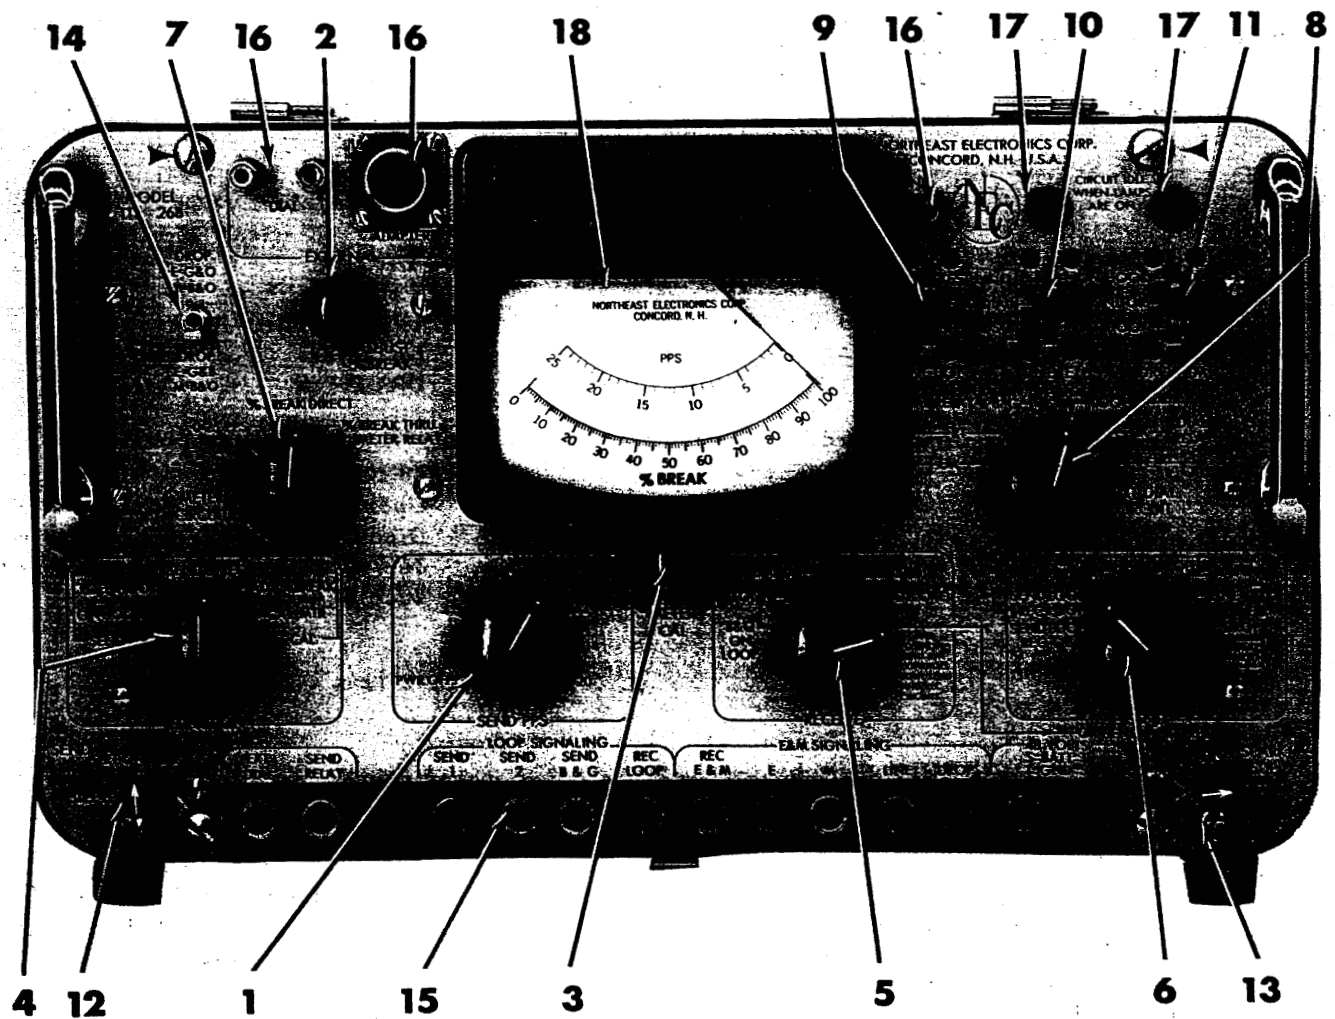

Figure 3-1. Front Panel Controls
3.2 Table 3-1 lists the functions of all controls and indicators shown indexed on fig. 3-1. Paragraphs 3.3 through 3.19 provide the operating instructions.